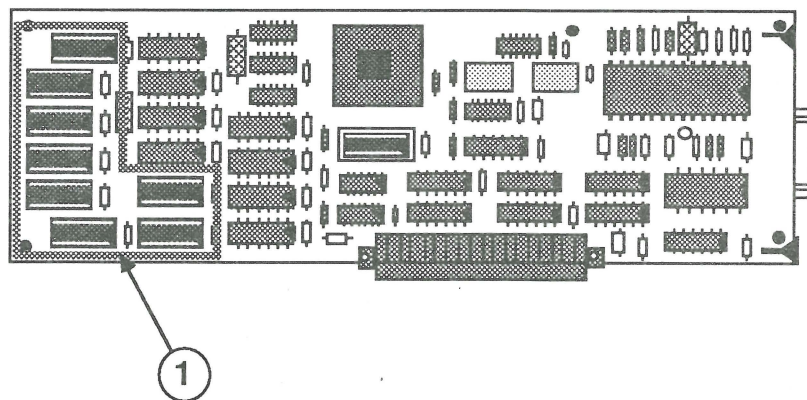

FIGURE 1
1. Install the eight video RAM chips in the appropriate locations on the video card: B1, C1, D1, E1, G1, H1, G2, and H2 (Figure 1, #1).